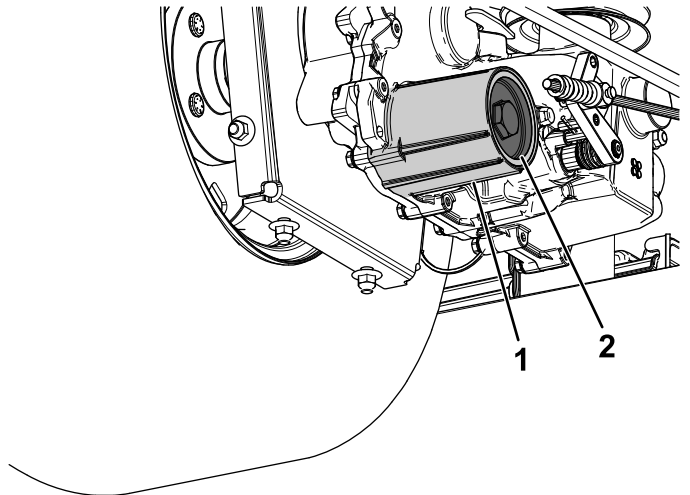

Figure 84
7. Remove the hydraulic-fluid filter cover from the transaxle to drain the fluid (Figure 84).